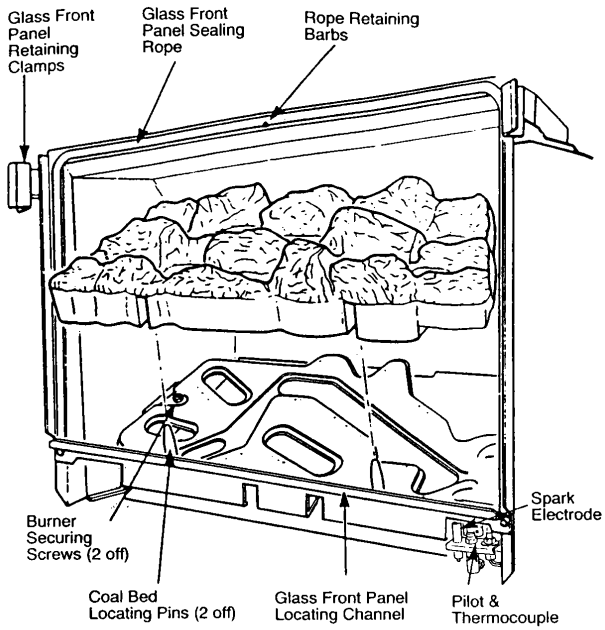

Fig. 10 Coal Bed
2. **Remove the glass front panel** (Fig. 10)
3. **Remove the coal bed** (Fig. 10)
4. **Remove the burner** (Figs. 10, 11 and 12)
#### GLASS FRONT PANEL (Fig. 10)
#### COAL BED (Fig. 10)
#### BURNER (Figs. 10,11 and 12)